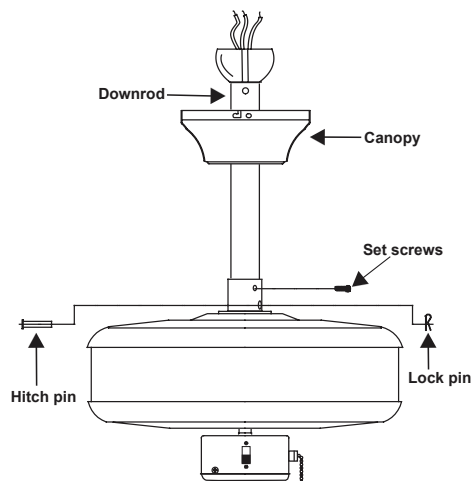

Figure 8
Step 6. Slip canopy onto downrod. Carefully reinstall hanger ball onto rod being sure that cross pin is in correct position, the set screw on hanger ball is tight and wires are not twisted. (Fig. 8)